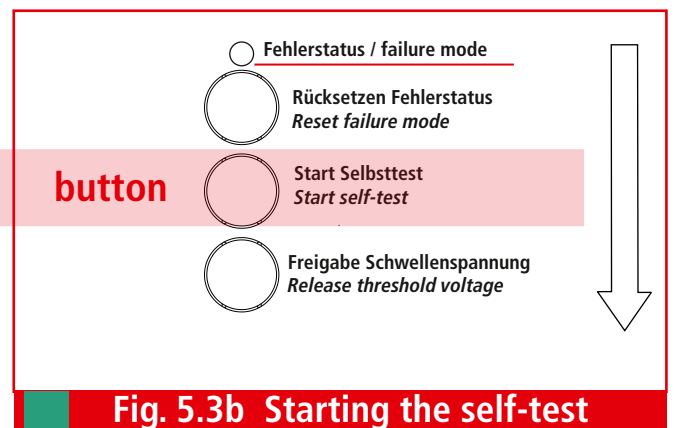

Fig. 5.3b Starting the self-test
- Press the "Start self-test" button to **start the self-test** (see Fig. 5.3b).